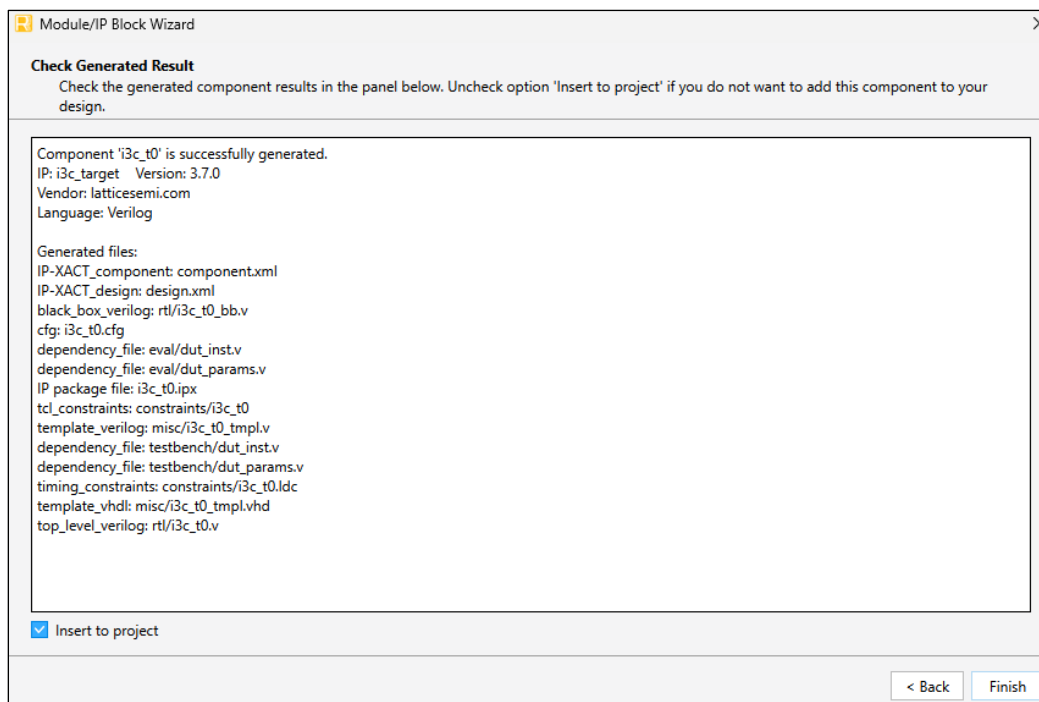

Figure 7.3. Check Generated Result
- Click **Generate**. The Check Generated Result dialog box opens, showing design block messages and results as shown in Figure 7.3.